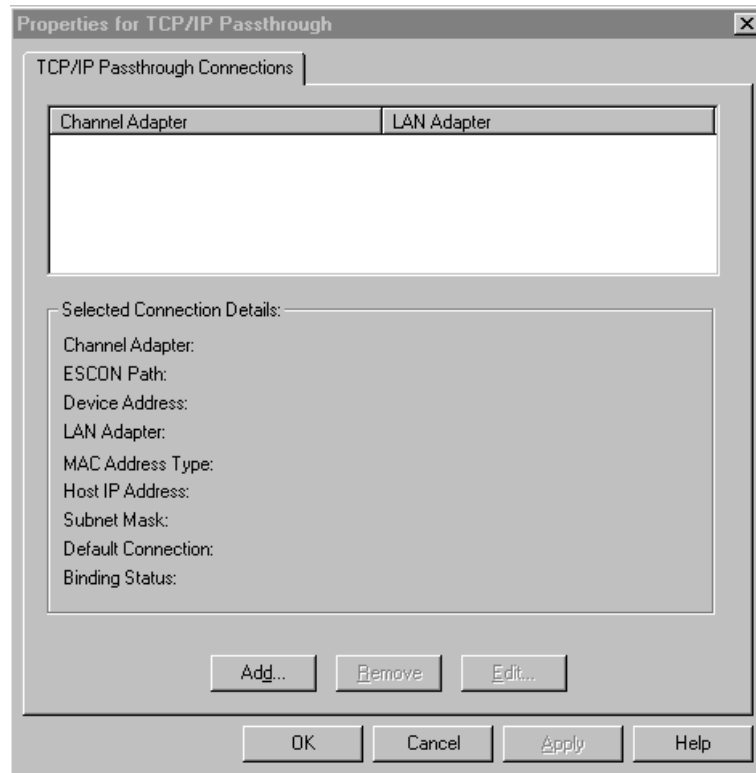

Figure 9-9. TCP/IP Passthrough Configuration
7. Click **C**lose to end the installation. The system will begin updating the network bindings. Since TCP/IP Passthrough has not been configured the update will be paused for you to configure TCP/IP Passthrough. The TCP/IP Passthrough properties screen will display (Figure 9-9).